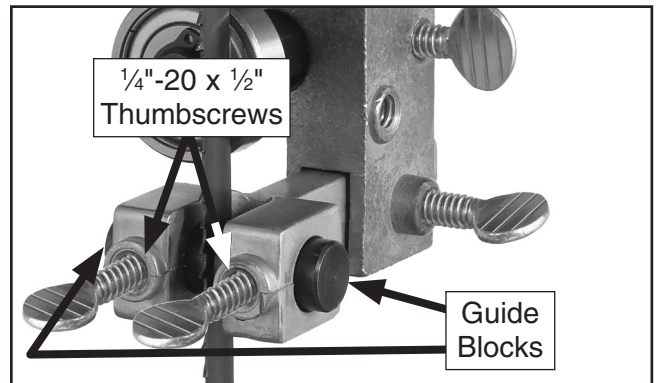

Figure 16. Blade guide installation.
- Insert the guide blocks into the upper and lower blade guide assemblies, then secure them with the 1/4"-20 x 1/2" thumbscrews, as shown in **Figure 16**.